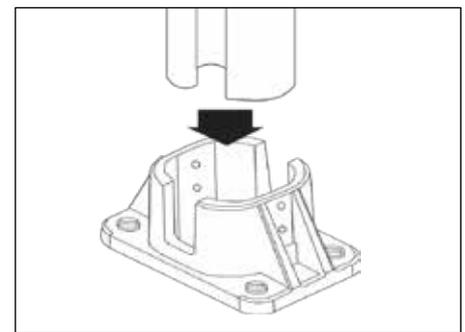

Figure 3
**G.** Cut post to required height. Push the post into the fixed base foot (**72BFG**) See **Figure 3**. Ensure they are plumb by checking with a spirit level.